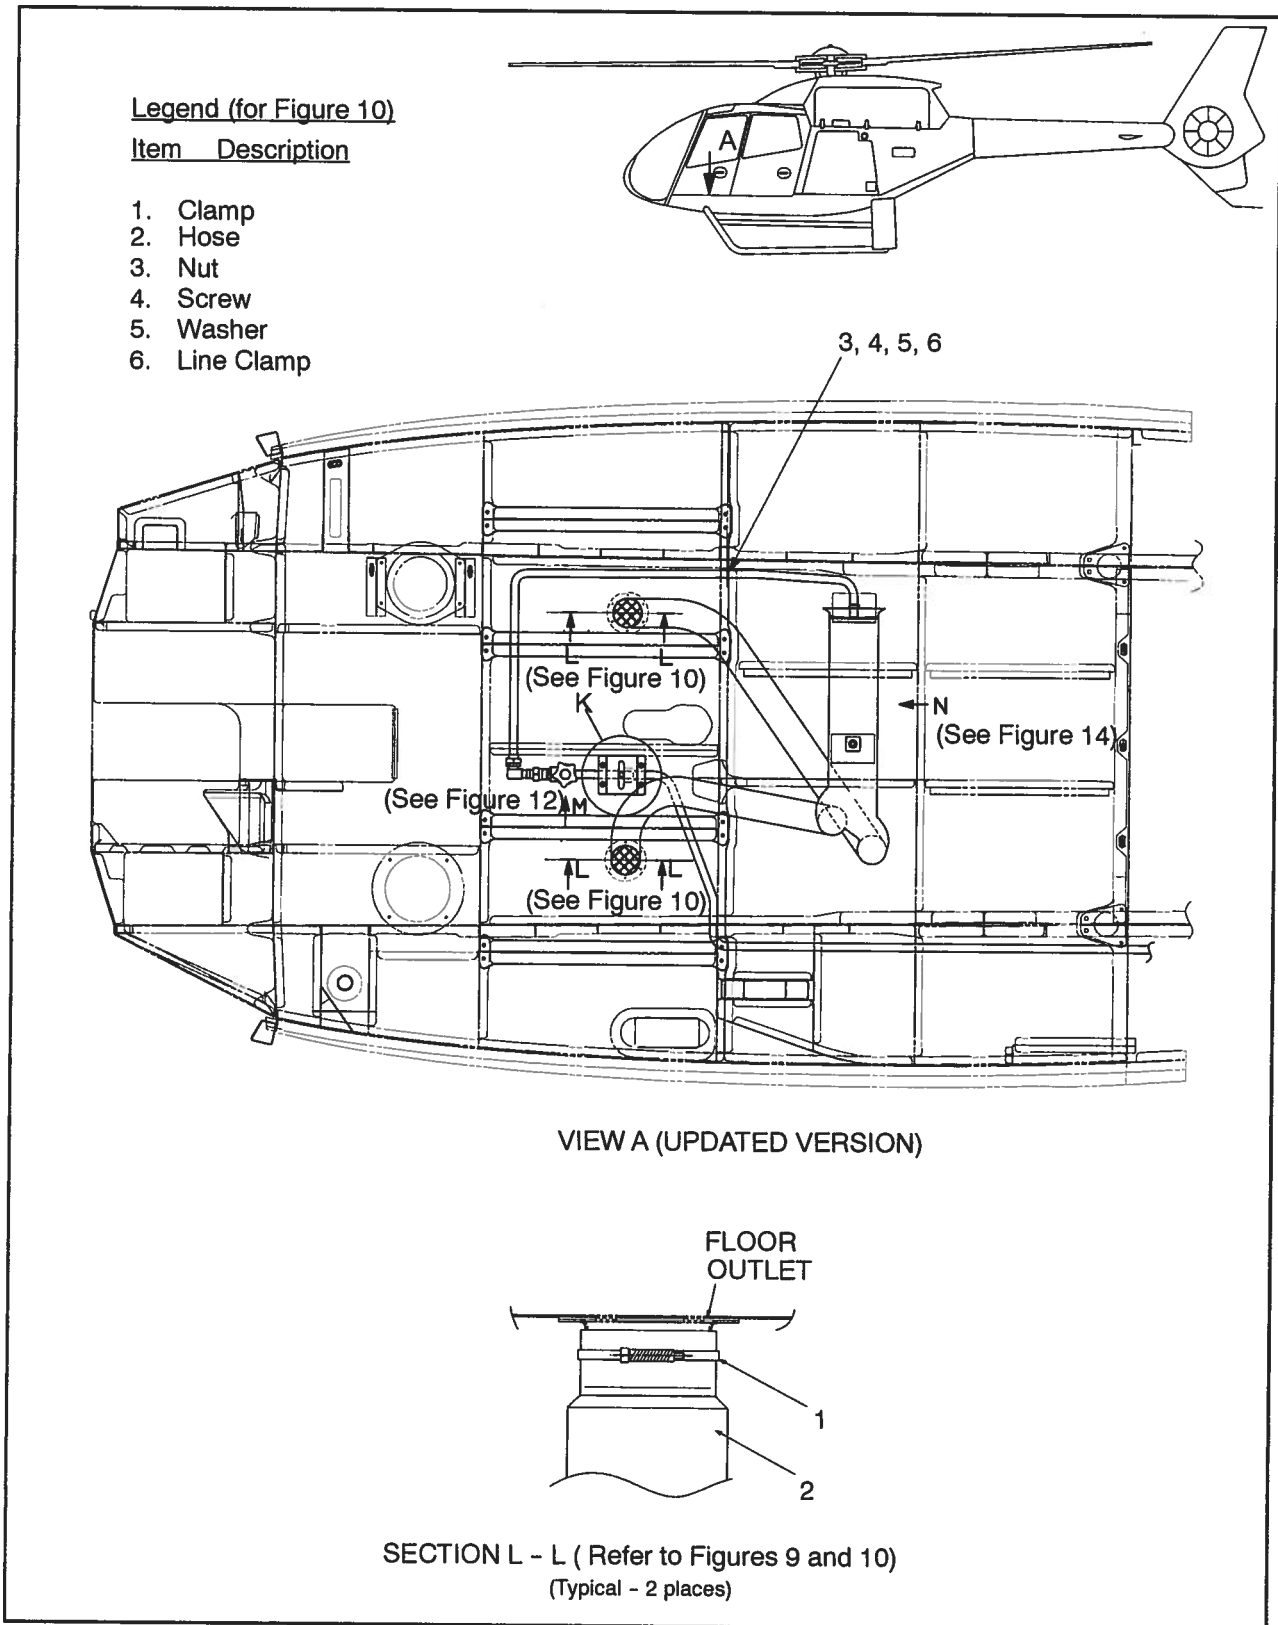
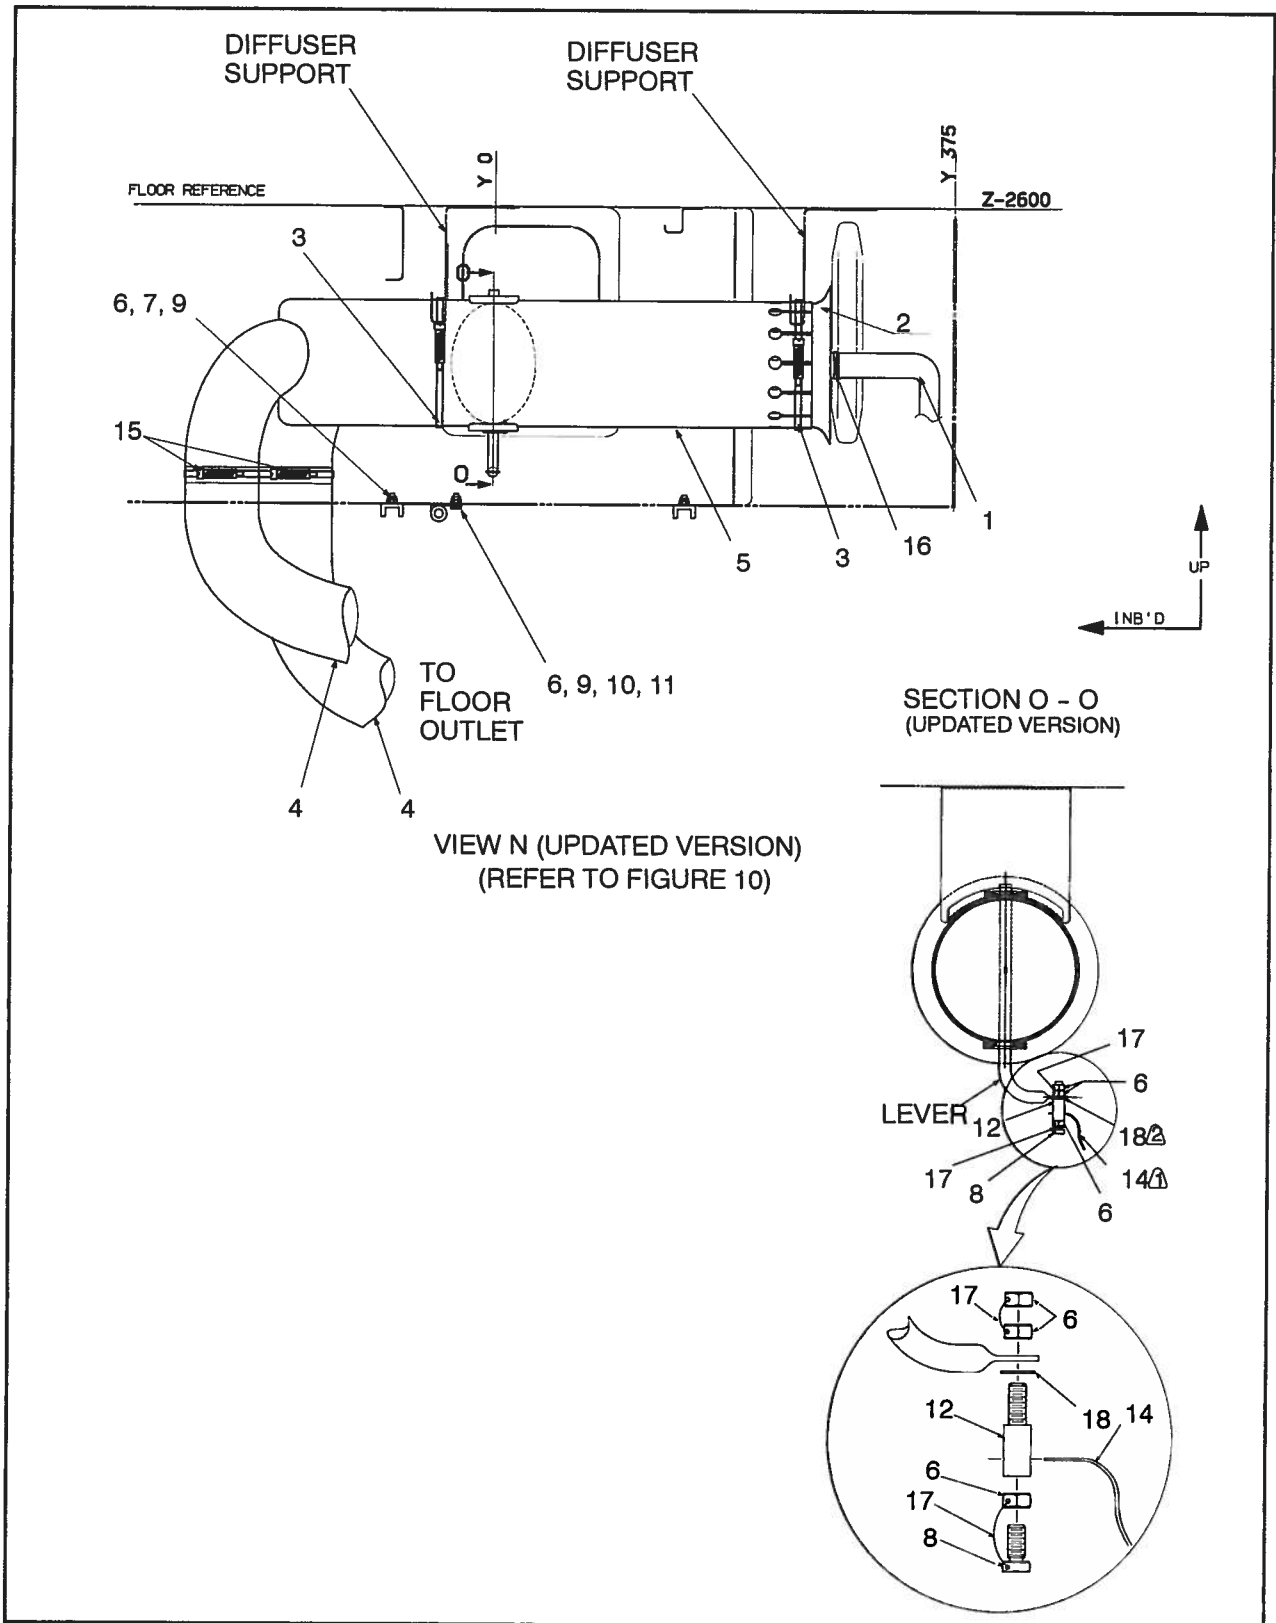

Figure 10 Cabin Floor Details (Updated Version)
Figure 14 Heating Duct Assembly and Floor Outlet (Sheet 2 of 2)
- 6) Heating Duct Assembly (Original Version, refer to Figures 10 and 13)
- b) Remove clamps (15) from both hoses (4). Disconnect hoses (4) from heating duct assembly (5).
- c) Remove tywrap securing hoses (4) to tywrap base (13). Refer to Figure 13. Remove clamps (2) from each floor outlet and remove hoses (2) from under cabin floor. Refer to Figure 10.
- d) Remove screw (4), washer (5) and nut (3) from line clamp (6). Remove line clamp (6) and P2 line from under cabin floor.
- e) Remove T-Handle cable (14) from lever by removing nut (19) from screw (21) pull cable (14) from bushing (20).
- 6) Heating Duct Assembly (Updated Version, refer to Figures 10 and 14)
- c) Remove tywrap securing hoses (4) to tywrap base (13). Refer to Figure 14. Remove clamps (2) from each floor outlet and remove hoses (2) from under cabin floor. Refer to Figure 10.
- e) Remove T-Handle cable (14) from lever. Remove lockwire (17), from nuts (6). Remove lockwire (17) from nut (6) and bolt (8). Remove nut (6) bolt (8), and washer (18), from bushing (12) pull cable from bushing (12).
- f) Disconnect clamps (3) (2 places) from diffuser supports and remove heating duct assembly (5).
6) Heating Duct Assembly (Old style, refer to Figures 10 and 13)
- b) Secure P2 line under cabin floor using screw (4), washer (5) and nut (3) to line clamp (6). Refer to Figure 10.
- c) Connect both hoses (4) to heating duct assembly (5), and secure using clamps (15).
- d) Connect one hose (2) to each floor outlet and secure using clamps (1). Refer to Figure 10. Secure hoses (4) to tywrap bases (13). Refer to Figure 13.
- e) Feed washer (18) and bushing (12) from the bottom through hole in lever. Secure bushing (12) to lever using nuts (6). Secure nuts (6) using lockwire (17).
- f) Feed T-Handle cable (14) through hole in bushing (20) and screw (21). Bend cable at right angle and secure using nut (19).
- g) Secure rigid P2 line (1) to heating duct assembly (5) and secure using clamp (16).
- 6) Heating Duct Assembly (New style, refer to Figures 10 and 14)
- a) Secure heating duct assembly (5) to diffuser supports using clamps (3) (2 places).
- d) Connect one hose (2) to each floor outlet and secure using clamps (1). Refer to Figure 10. Secure hoses (4) to tywrap bases (13). Refer to Figure 14.
- f) Feed T-Handle cable (14) through hole in bushing (12). Secure T-Handle cable (14), bushing (12), with nut (6), and bolt (8). Once bushing (12) has sufficient amount of movement about the arm of the lever, tighten nut (6) and secure to bolt (8) using lockwire (17).